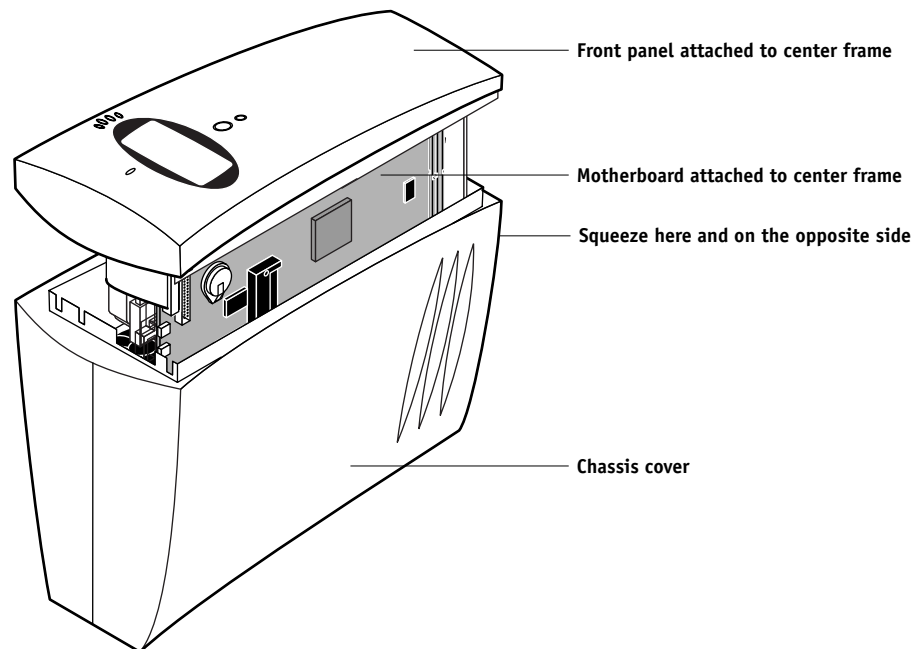
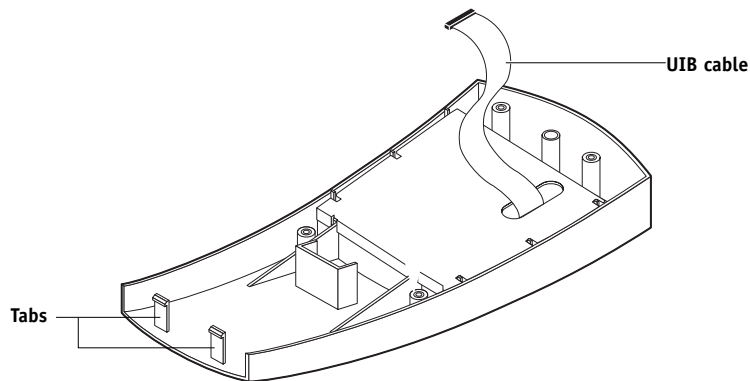

FIGURE 4-3 Removing the chassis cover
FIGURE 4-5 Inside front panel
3. Place the iR-M1 face up, resting the back panel on protective foam as shown in Figure 4-3.
4. Squeeze the sides near the bottom to release the chassis cover from the front panel tabs as shown in Figure 4-3 (for tab locations, see Figure 4-5 on page 4-7).
The two tabs near the bottom of the inside front panel snap into the chassis cover. Push the chassis cover and the front panel together to achieve a snug fit. See Figure 4-5 on page 4-7 for tab locations.